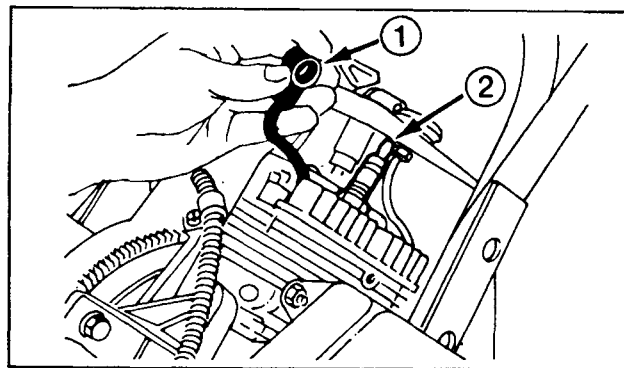

Fig. 12
2. **REMOVE SPARK PLUG** (Fig. 12) — Pull high tension wire off spark plug and remove plug. Examine the plug and replace if cracked, fouled or dirty. **DO NOT SANDBLAST, SCRAPE OR CLEAN SPARK PLUG BECAUSE DIRT MAY RELEASE AND FALL INTO CYLINDER CAUSING ENGINE DAMAGE.**